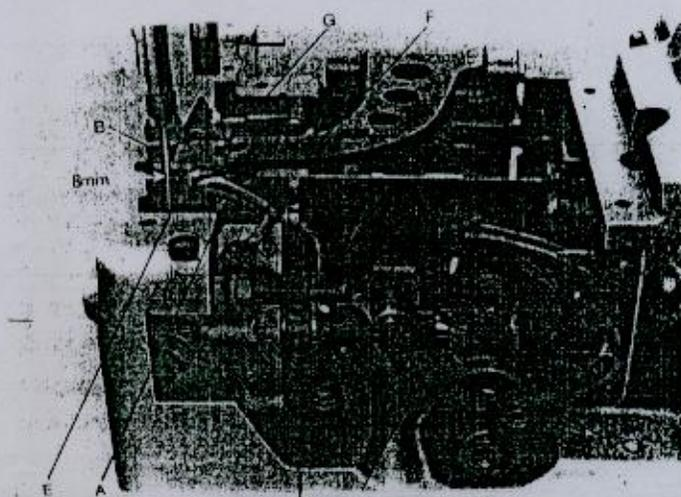
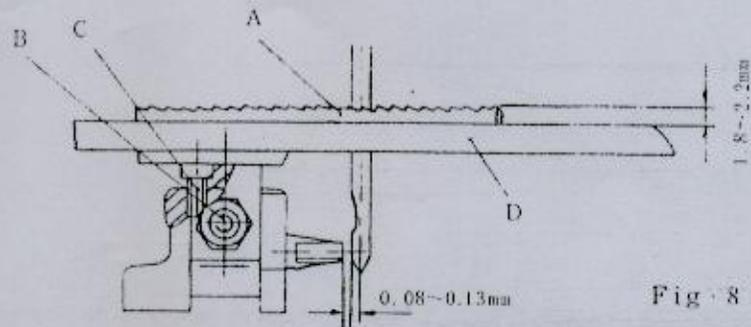

Fig. 5
Fig. 8
(2). Rotate the machine pulley clockwise by hand, so that the needle bar moves to the lowest point, at the same time the looper moves back to its farthest position to the right. The distance from the point of the looper (A, Fig. 5) to the centerline of the needle is 8mm (5/16in.). For adjustment, loosen two screws (C) in the looper drive lever, rotate looper drive lever (D) left or right as required to obtain specified dimension and retighten screws (C).
The needle will bend or break when abutting bags made of different thickness of sewing material. And the needle guard (E, Fig. 5) will protect the needle. The clearance between the needle and the needle guard is 0.08-0.13mm (.003 to .005 in.) (Fig. 8). For adjustment, rotating pulley in the direction of operating, so that the needle guard moves against the needle. Loosen set screw (G) on feed dog holder (Fig. 5), move the needle guard accordingly. Retighten screw (G).
The height of the feed dog (A Fig. 8) are determined by the quality and thickness of the sewing materials. For closing thin material such as bags made of cloth and plastic, teeth should project 1.5mm (.070 in.)
The length of the stitch can be adjusted by raising or lowering the stud (A) in the segment slot of the feed locker (C, Fig. 8). Lowering the stud will shorten the stitch. After loosening nut (B), stud (A) can be moved accordingly. When the desired stitch length is obtained, retighten nut (B). (For automatic style machines the cloth plate should be removed to adjust)